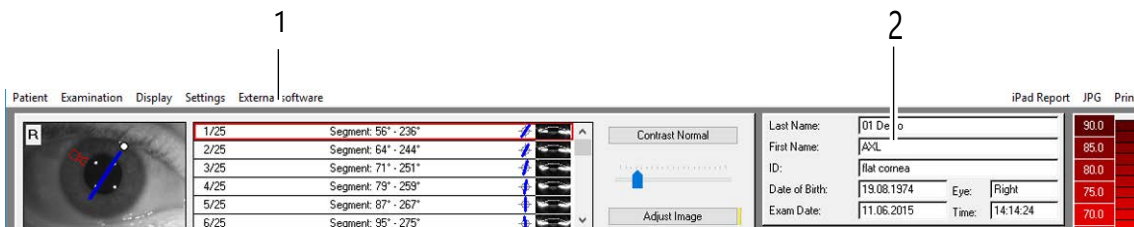

Fig. 6-1: Pentacam® program menu (upper section)
- In the Pentacam® program → fig. 6-1 (page 28) select the menu item [Examination] and click [Scan].